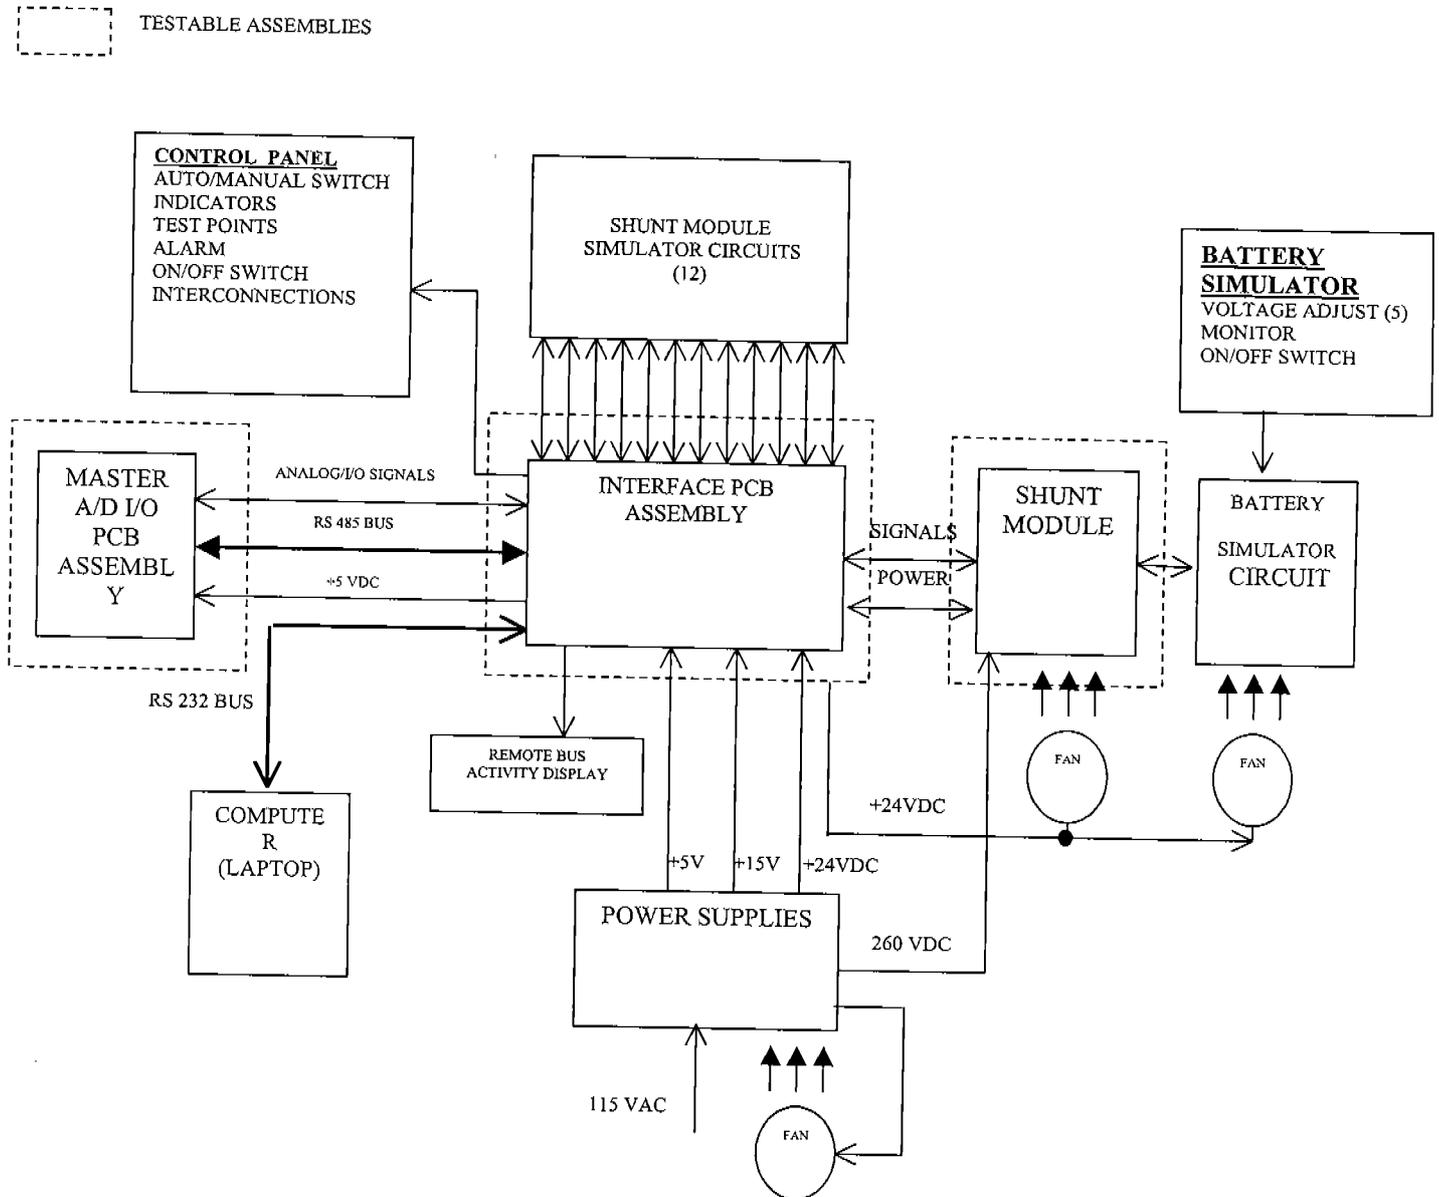

FIGURE 1-1 Simplified Block Diagram
- 1.3 Test Stand: The electronic modules are tested using the Battery Charger Electronic Module Test Stand (referred to as Test Stand). The Test Stand is a semi-automatic test system capable of subjecting the test item to functional performance evaluation of the electronic subsystems of the Battery Charger Unit. A simplified block diagram is shown in Figure 1-1.